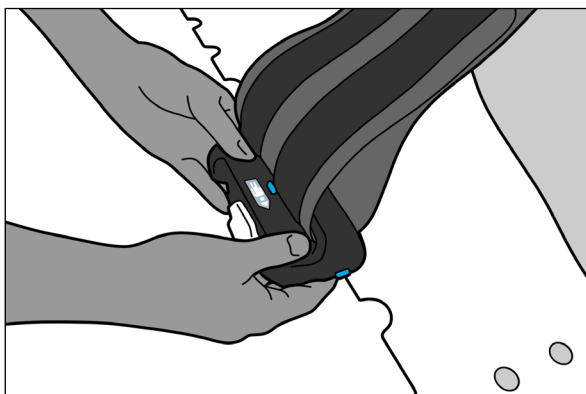

Fig. 10
7. Install other clamp on opposite device edge and lock clamp (Fig. 10).